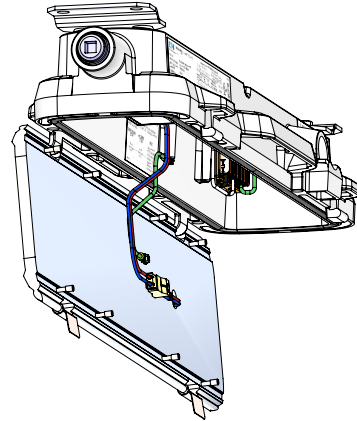

Figure 10. Light Engine Rotated for Servicing
3. Pull the retention clips on the light engine assembly to free it from the driver housing and pivot the light engine fitting on the driver housing service hooks (see Figure 10). This shall expose the internal volume of the driver housing and the input wiring terminal carriers.